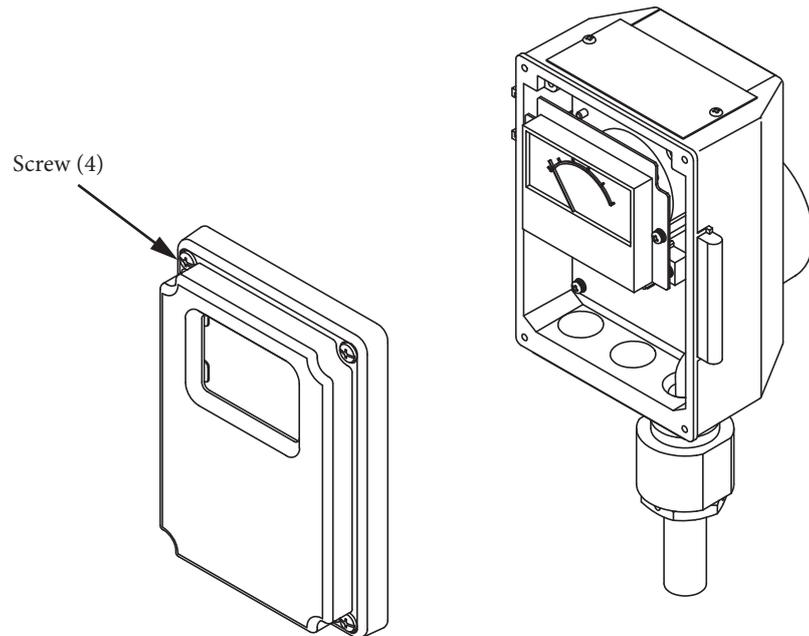

Fig. 9-9. Removing the cover
- (1) Loosen the four screws of the junction box cover to remove the cover. (☞ Fig. 9-9)
- (2) Remove the screws that attach the meter to the plate. Be sure not to drop the screws when removing them.